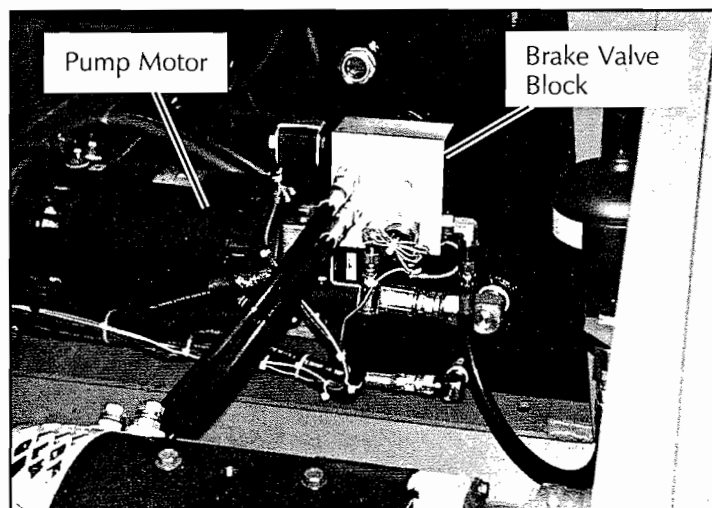

Figure 3-10: Hydraulic Power Unit
3.8 Hydraulic Power Unit (Figure 3-10)